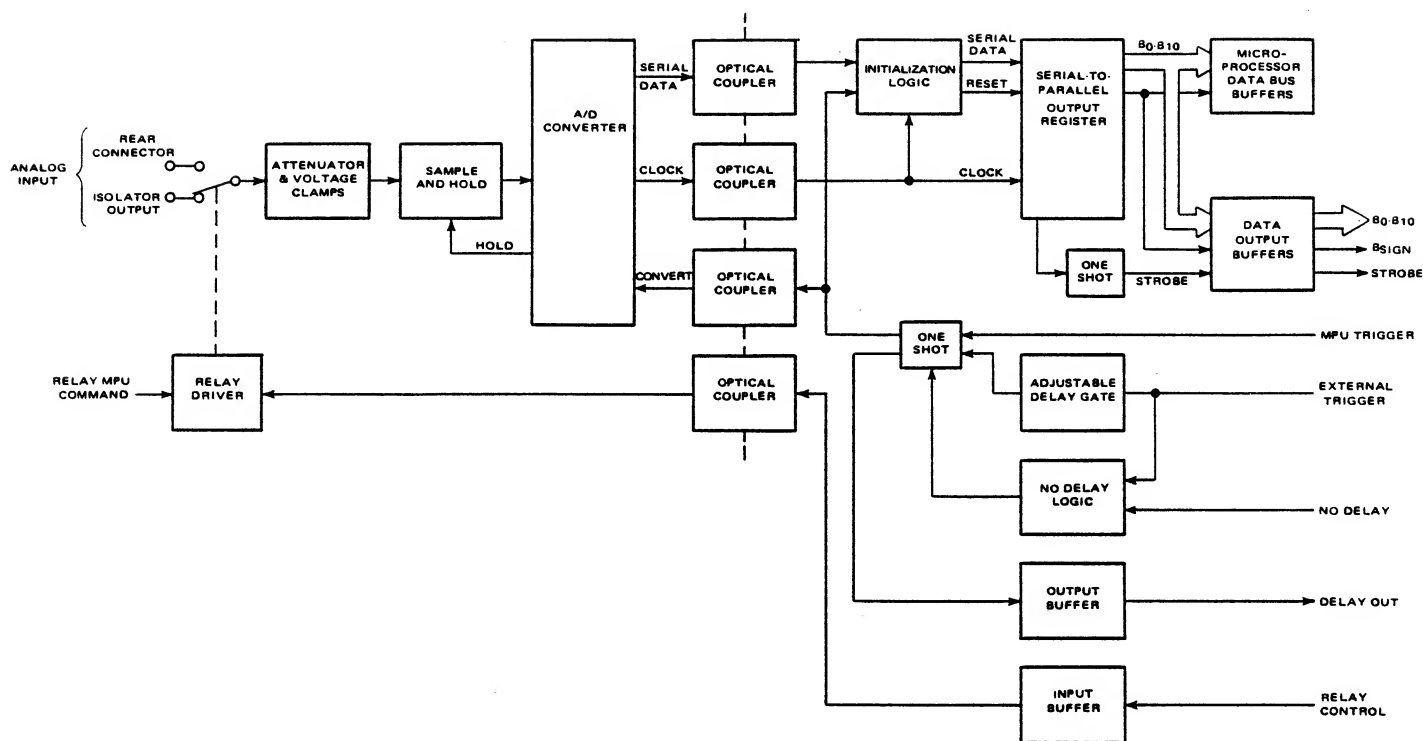

Figure 5.33 - Sample and Hold Fast Waveform Digitizer
5.4.3.7.1 The Sample and Hold (S/H) Digitizer (Figure 5.33) provides for high speed digitizing of analog signals. The S/H circuitry increases the data bandwidth of the Digitizer, and allows for the digitizing of selected portions of input waveforms. The circuitry consists of a Fast A/D Input Select relay, input attenuator, sample and hold section, 12-bit analog to digital (A/D) converter, initialization logic, serial to parallel output register, data buffers, trigger delay gates and relay control circuitry.